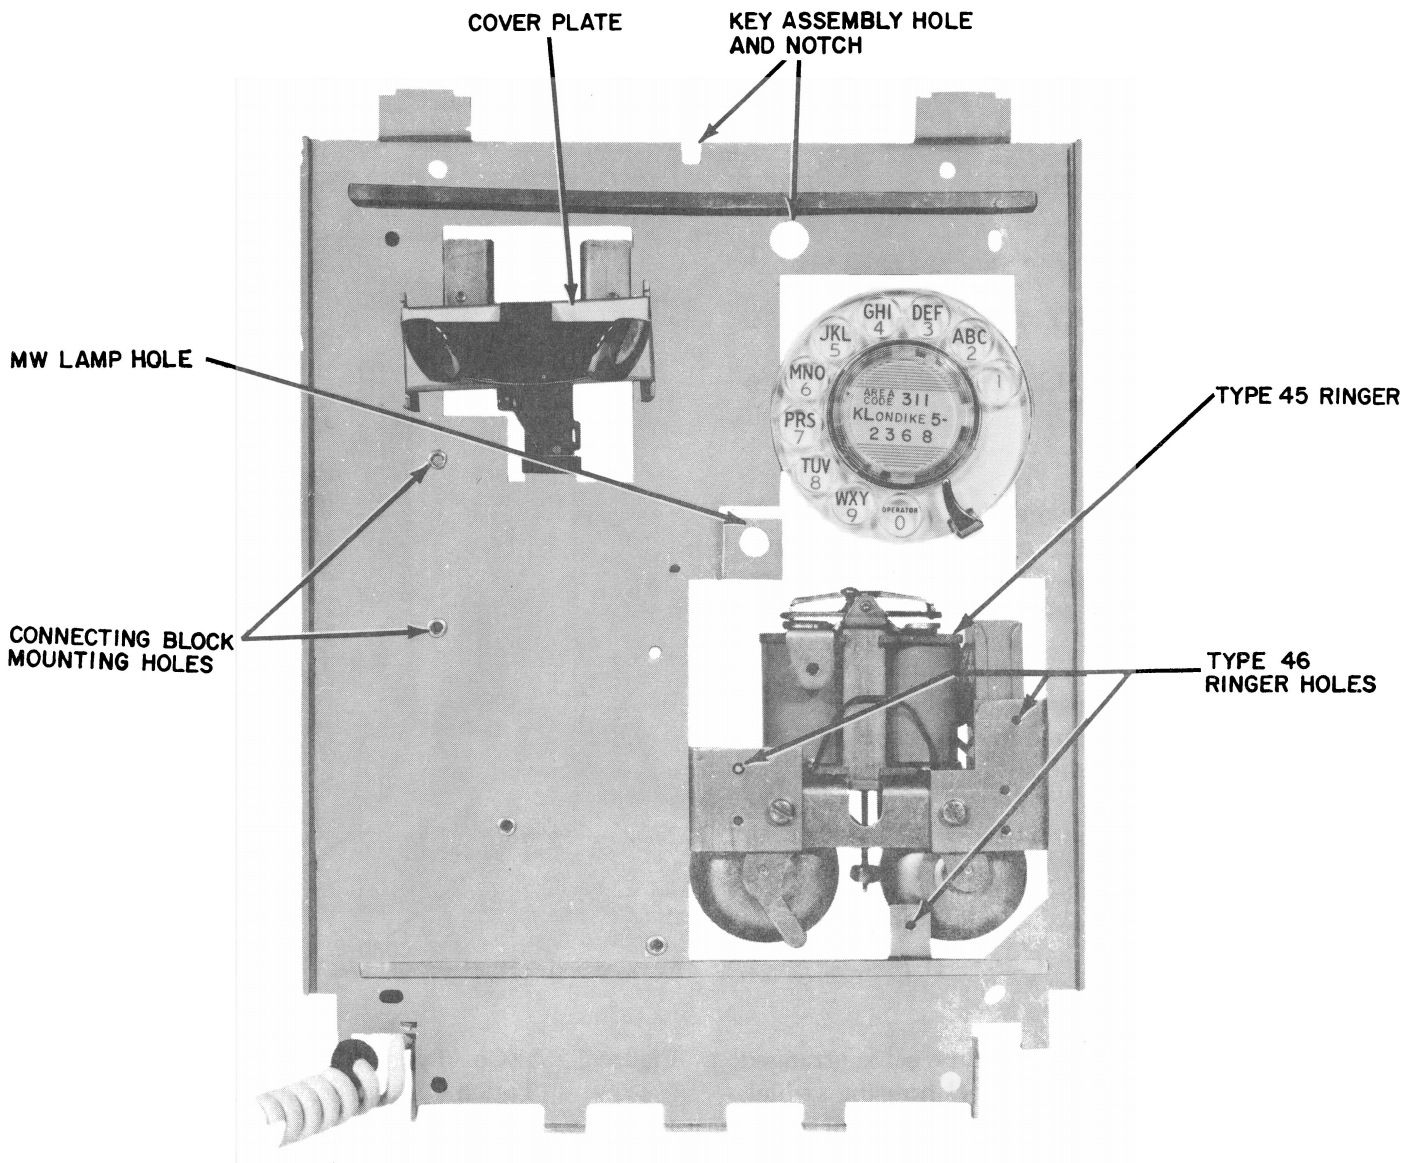
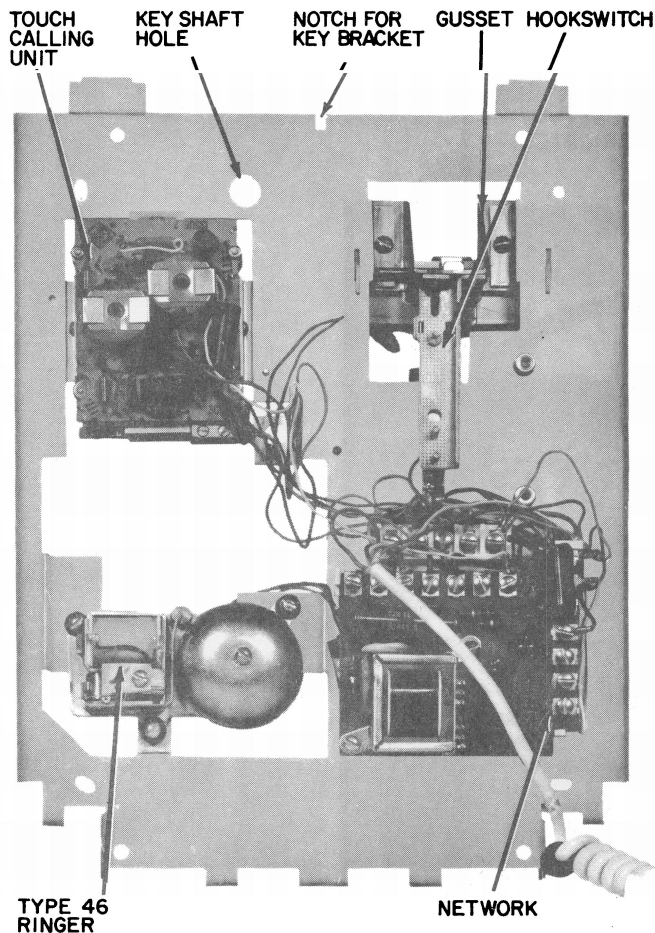

Figure 2. Component Mounting Plate, Front View.
Figure 10. Component Mounting Plate, Rear View.
2.02 The faceplate provides external covering for a steel mounting plate which fastens to the housing and supports the hookswitch, calling device and transmission network. This component mounting plate (see Figure 2) is a steel stamping with two horizontal welded reinforcements, arranged to mount over the front of the steel housing, to which it is fastened with four machine screws furnished with the housing. Tab extensions at the top of the plate engage slits in the aluminum faceplate, and a turned-out bracket at the bottom is threaded to accept a binding head screw which secures the bottom of the faceplate. The latter bracket, in conjunction with two others along the
2.05 In the lower right corner of the component mounting plate, a cutaway area intersected by several mounting tabs provides for mounting a ringer behind the plate. On NB-series sets, and NC-series sets manufactured prior to the offering of the Touch Calling option, two horizontal tabs are arranged with clearance holes to mount a Type 45 ringer. NC-series instruments of later manufacture use a plate with a third, vertical tab added, as shown in Figure 2. In this case the tabs are drilled and tapped with additional holes to permit mounting of a Type 46 straight line ringer from the rear, as shown in Figure 10. The coil leads of early Type 46 ringers will require extension or replacement to permit connection to the network when mounted, as the standard leads are too short to reach the terminals.